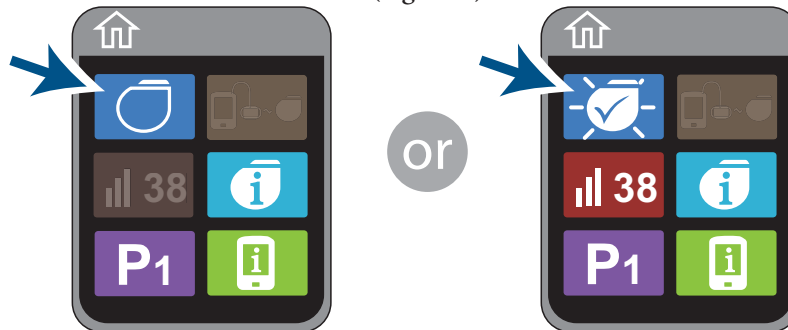

Figure 7. Stimulator Off and Stimulation On buttons
1. Tap  or  on the Home screen (Figure 7).